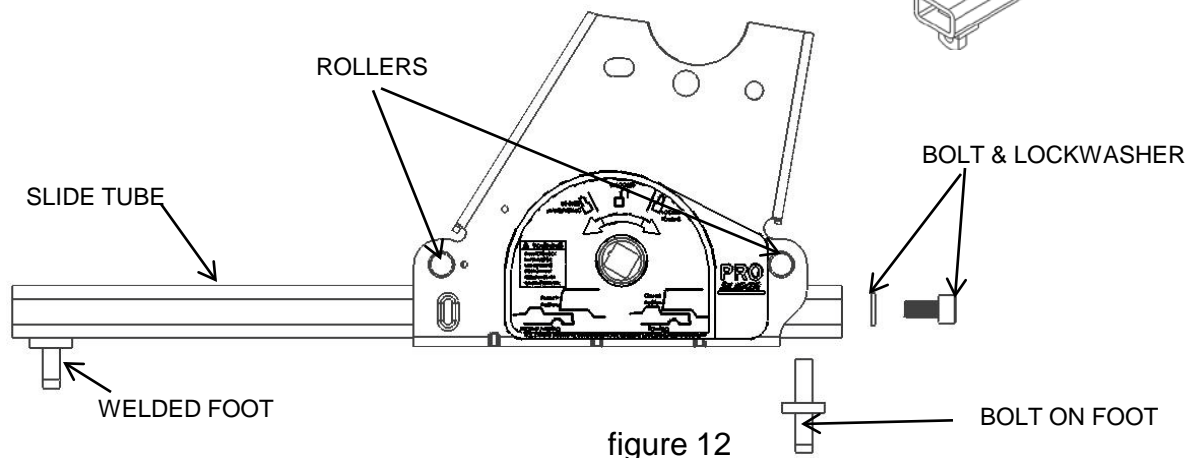

figure 12
6. Return to truck. Release emergency brake. Manually engage trailer brake and pull truck forward until the Pro Slider stops at bolt in foot (figure 12) and latch engages in maneuvering position (see figure 15).